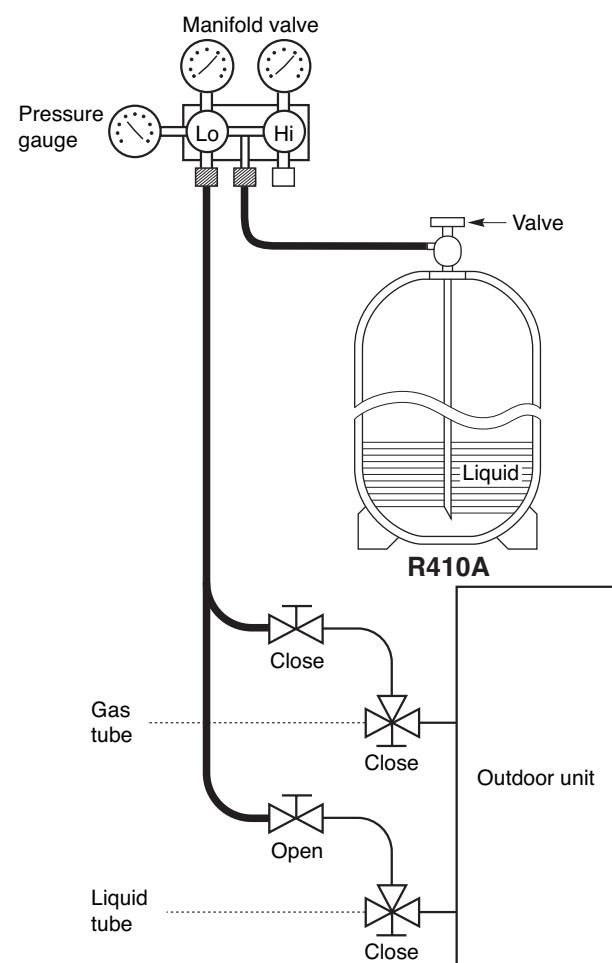

Fig. 8-5
- Charging additional refrigerant (calculated from the liquid tube length as shown in Section 1-7 "Additional Refrigerant Charge") using the liquid tube service valve. (Fig. 8-5)